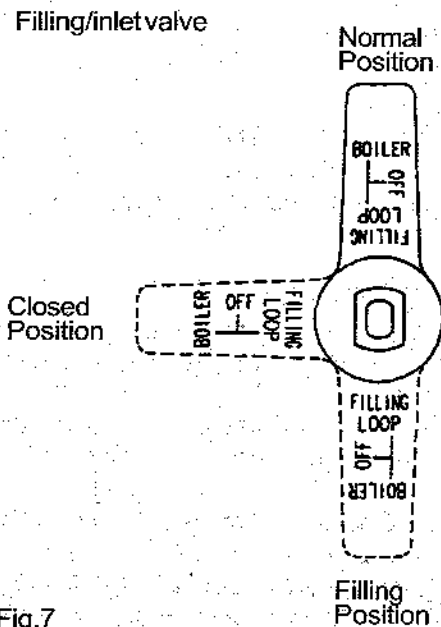

Fig.7
- (iii) Vertically down - Filling position. See fig. 7. To fill slowly turn the handle of the filling/inlet valve past the closed position towards the filling position. Mains water will be heard to enter the system/boiler. As the water enters the system/boiler the pressure gauge will be seen to rise. Pressurise to between 1bar & 1.5bar when the system is cold. **DO NOT OVERPRESSURISE.** Once the desired pressure is achieved turn the filling/inlet valve back past the closed position and into the normal boiler position.